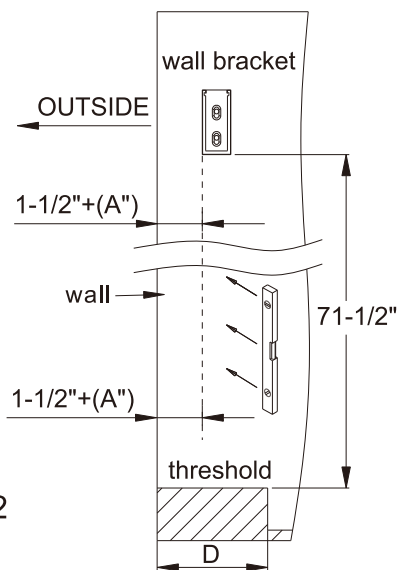
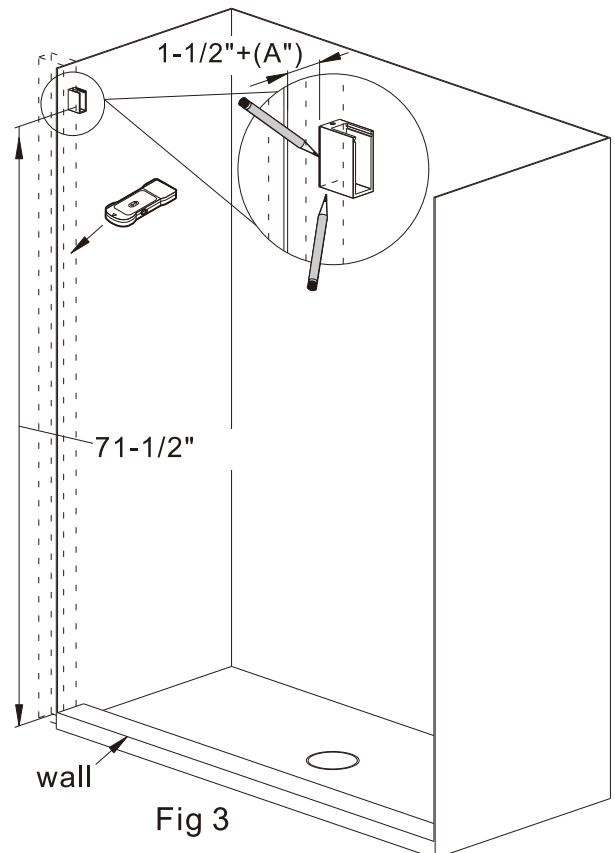

Fig 2
Fig 3
- This model requires a minimum 2-3/4" (70mm) of flat level threshold space for installation. 4-1/8" (105mm) of flat level threshold space is preferable. (Dimension "D" of Fig 2.)
- This shower door must be mounted to a stud. Minimum threshold space is required. **IMPORTANT:** Using a stud finder, ensure the wall intended to hold the door has a stud at the installation point. A stud in this location must be identified to support the support bar in order to proceed with the installation. If there is no stud in the shown area, we recommend employing a qualified contractor to install one. (Fig 2)
3. Measure up 71-1/2" (1816mm) from the ground to the bottom corner of the **Wall Bracket Assembly [13A]** and draw a horizontal line. Measure in 1-1/2" (38mm) minimum from the outside of the **Wall** to the profile of the **Wall Bracket Assembly [13A]** and draw a vertical line. Or measure 1-1/2" + (A") if you want to install the shower door behind the outside of the wall (Fig 2, Fig 3). A" is the distance between outermost surface of shower door and the outside of the wall.